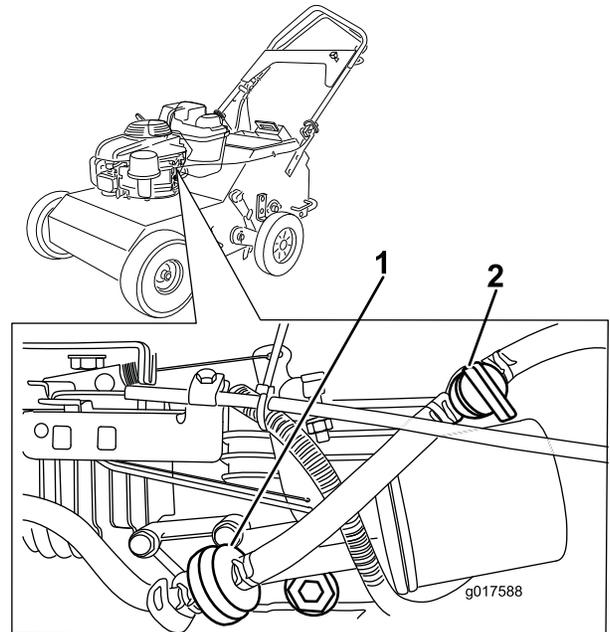

Figure 24
4. Clamp off the fuel line on either side of the fuel filter (Figure 24) to prevent fuel from leaking out when you remove the filter.
5. Squeeze the ends of the hose clamps together and slide them away from the filter (Figure 24).
7. Install a new filter and move the hose clamps close to the filter (Figure 24).